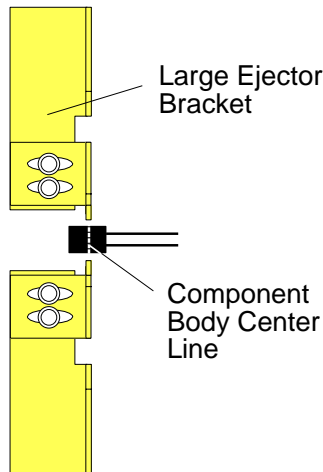

Figure 11 Adjust Large Ejector Bracket
- b. Adjust each large ejector bracket (Item 1) to obtain an air gap of approximately 1/32" (0.794 mm) as illustrated in Figure 11.